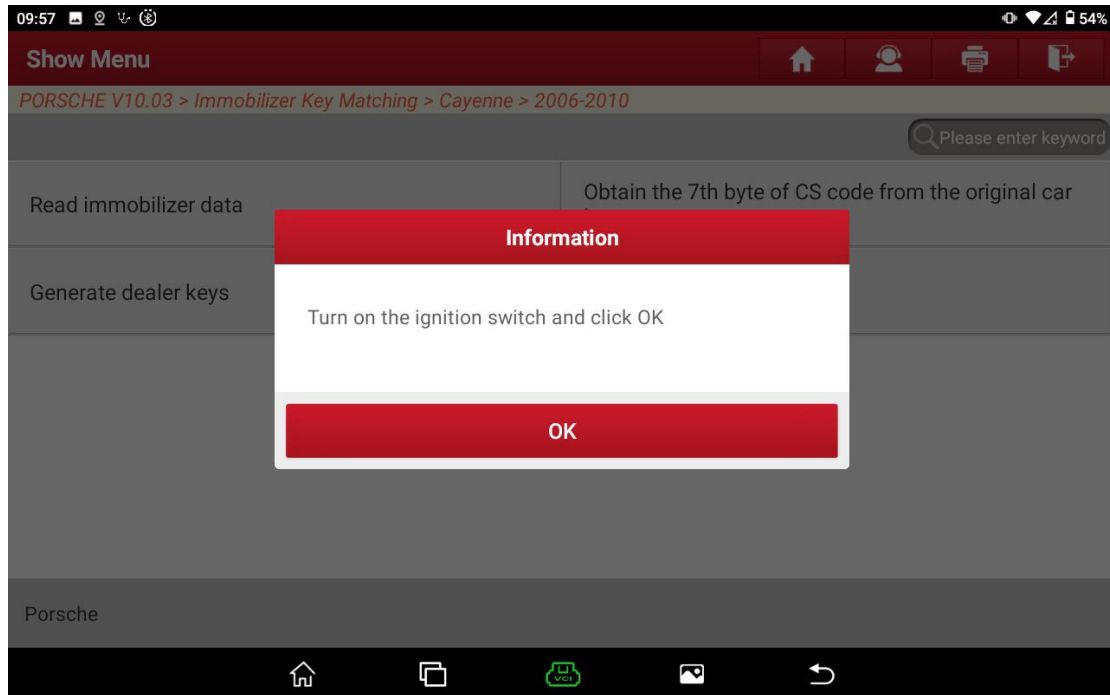

Figure 4 Prompt
- Choose [Read immobilizer data], and follow the prompt in Figure 4 to "turn on the ignition switch" to start reading immobilizer data.